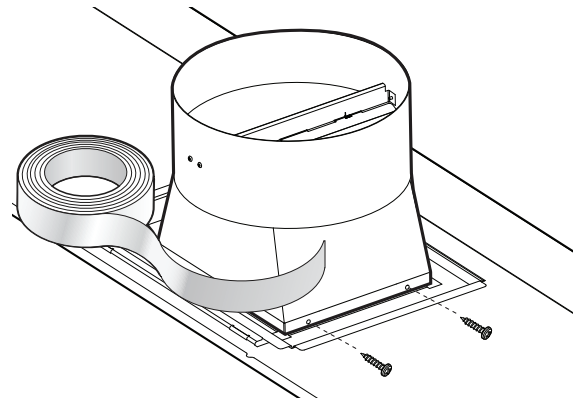

Figure 7: Transition Connection
3. Fasten transition to hood using four (4) 1/4" (6 mm) sheet metal screws included with hood (*Figure 7*).
4. Seal connection between transition and hood with aluminum tape. **DO NOT** use duct tape. Ensure that the connection is completely sealed (*Figure 7*).